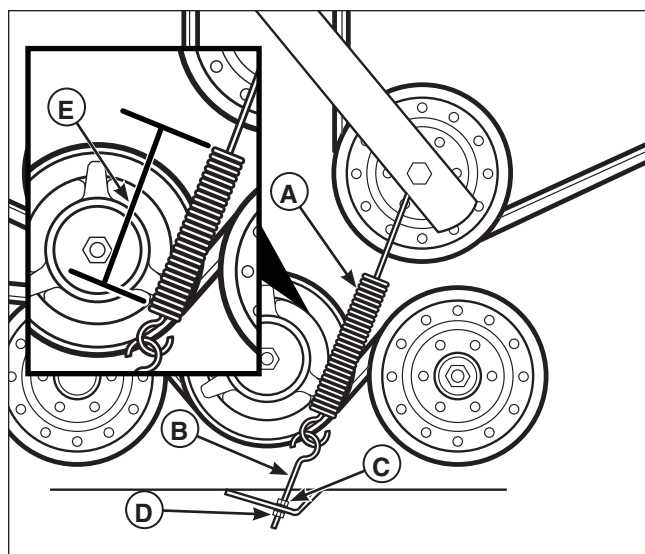

Figure 54. Mower Belt Idler Spring Length
3. Use the Mower Belt Idler Spring Length chart to determine the correct spring length (E, Figure 54).
4. Measure the coil length of the mower belt tensioner spring (A). The measurement should equal the measurement as designated in the chart. If the measurement does not equal the measurement as designated in the chart, adjust the anchor eyebolt (B).